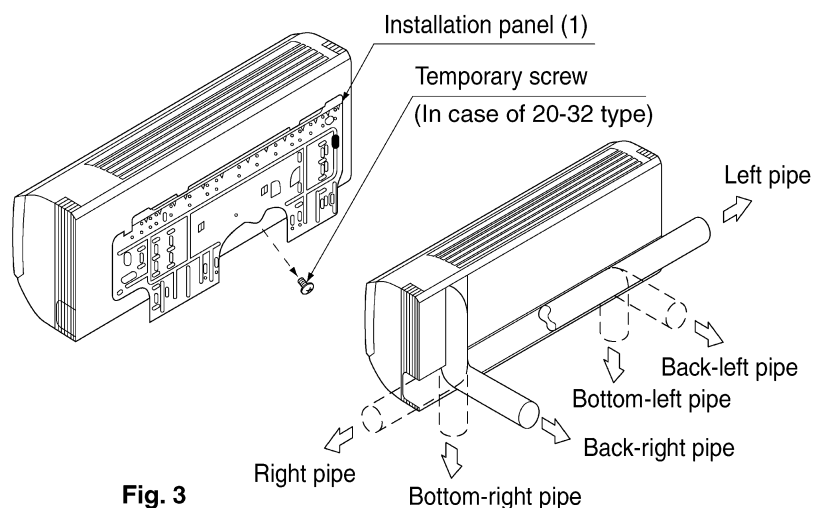

Fig. 3
(1) Open the piping through-hole.
- The refrigerant pipe and drain pipe can be passed out in one of 6 directions: left, bottom-left, back-left, right, bottom-right, and back-right. **(Refer to Fig. 3)**
- Using the paper pattern for installation (3), choose where to pass the piping out and open a through-hole ($\phi 80$) in the wall.
(Refer to Fig. 3)